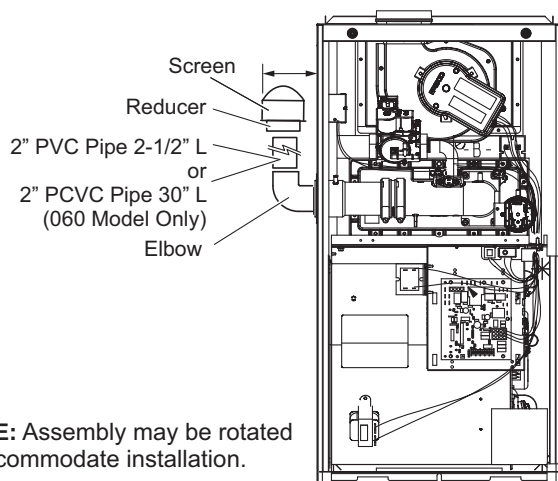

Figure 29. Air Intake Pipe Connections Upflow
2. Remove the air intake assembly from outside the cabinet. The assembly is not secured with screws or glue and will remove with ease. See **Figure 29**.